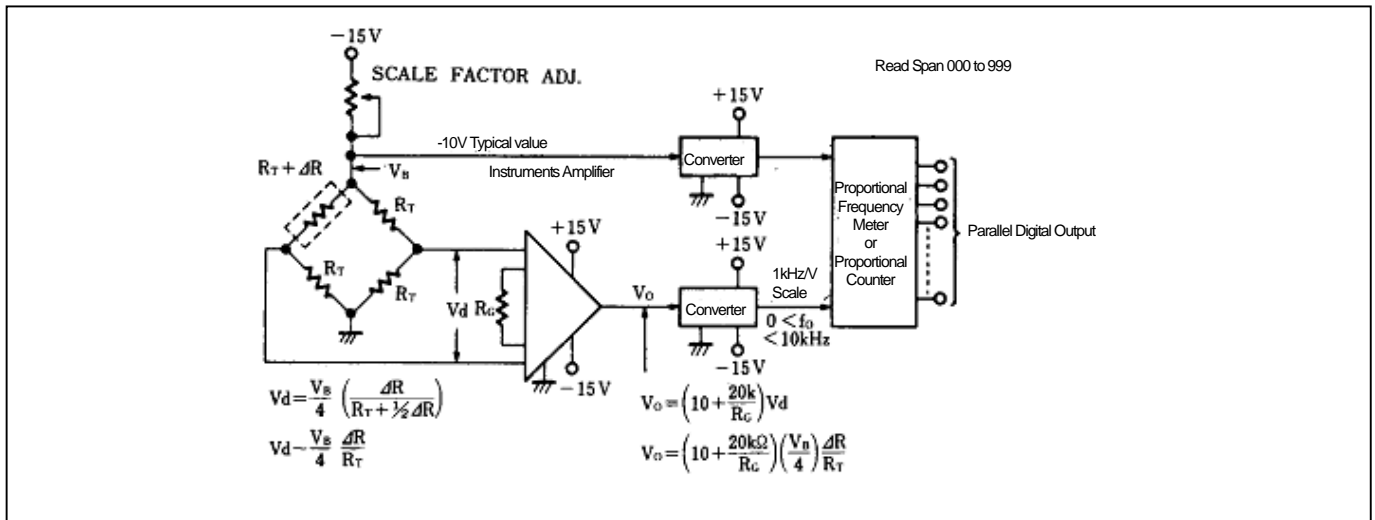

Figure 12. Proportional meter system
The accuracy of the systems is better on used proportional method, for measurement equipment. Use the NJM4151, Figure 12 shows the proportion by weight measurement system. First, the strain gauge bridge circuit, and the cells of weight detecting detect the weight. Then generates a difference voltage. The Difference voltage (VD) for the converting bridge approximated $V_B \Delta R / R_T$ in a small range of resistance changes of strain - gauge. Necessary information is $\Delta R / R_T$ and the voltage (VB) across the bridge must be stable. Instrumentation - amplifier amplify the low input differential voltage (VD). It is used to eliminate the common mode input voltage. The voltage across the bridge (VB) converted to frequency (fB). Then, the output voltage amplitude (V0) converted to frequency (f0). Hereby, ADC is designed for proportional meter. The voltage across the bridge converter is 1Hz / V. Amplifier voltage converter is 1kHz / V conversion factor. Proportional counter and frequency meter type of proportional will be used to convert frequency ratio f0/fB. The first advantage of conversion technology by the proportional method is that it is independent of the voltage across the bridge. Frequency (fB) is proportional to the bridge voltage (VB). Output frequency (f0) is proportional to the VB. f0/fB is independent of VB, only proportional to $\Delta R / R_T$.